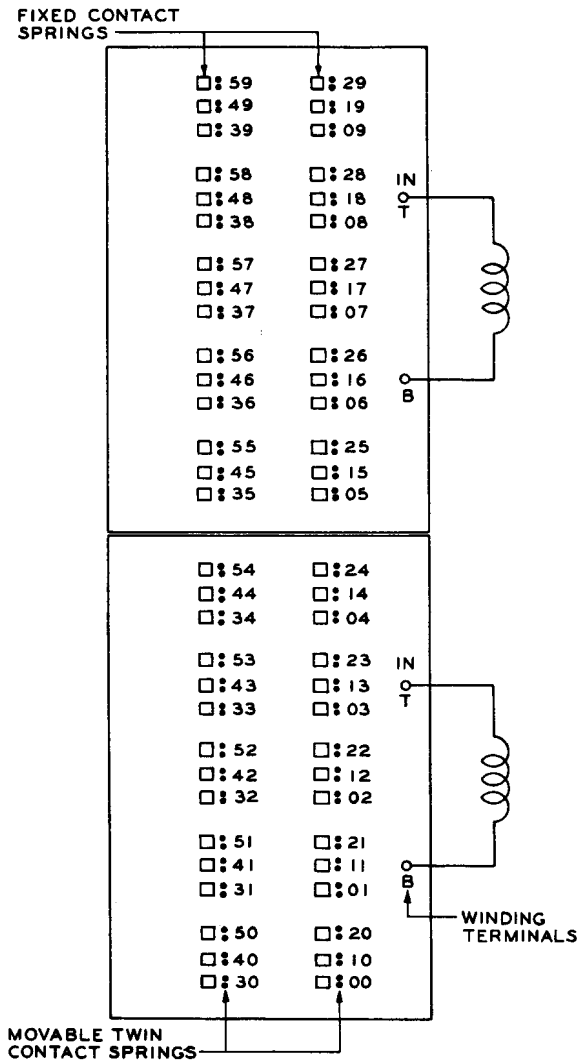

**Fig. 58 — Winding and Contact Spring Arrangement as Viewed From the Front (contact side) — 286-Type Relay**
(1) As viewed from the front of the relay, there are 30 make contact positions arranged in two vertical rows of 15 positions each. Each vertical row is divided into five groups of three positions each. Each position has a single fixed contact spring and associated movable twin contact springs. The movable twin contact springs are at the right of their associated fixed contact springs. The contact arrangement and the numbering of the contact springs are shown in Fig. 58.
(2) Referring to the figure, all contact positions are designated by 2-digit numbers. The five groups of three contact positions in both vertical rows are numbered from 0 to 4 starting at the bottom. These numbers appear as the second digit in the designations of each of the three contact positions in the respective groups. In the right vertical row, the three contact positions in each of the five groups are numbered 0, 1, and 2 starting at the lowest position in the group. This number